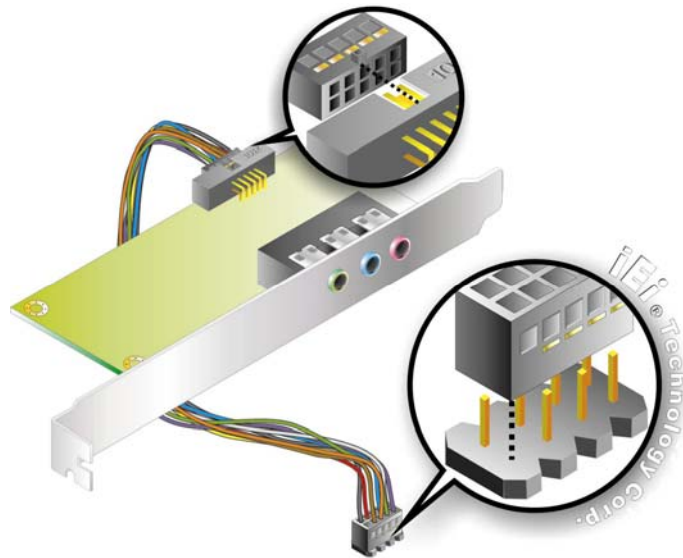

Figure 5-10: 5.1 Channel Audio Kit
- Step 3: Align pin 1.** Align pin 1 on the on-board connector with pin 1 on the audio kit cable connector. Pin 1 on the audio kit cable connector is indicated with a white dot. See **Figure 5-10**.